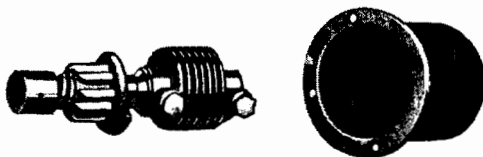

FIG. 8
20. Put on cup-shaped starter gear cover, Fig. 8, using gasket previously removed from the round cover plate.